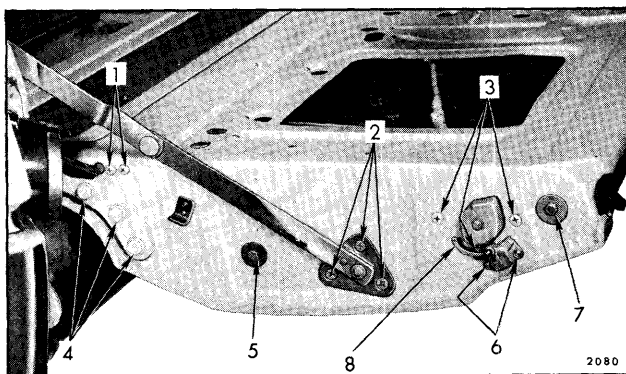

Fig. 9-5—Tail Gate Hardware - Left Side
3. While properly supporting tail gate, remove right and left support to gate attaching screws and fold supports against body (See Fig. 9-5 and 9-7).
4. With the aid of a helper, remove right and left tail gate hinge to gate attaching bolts and remove tail gate from body (See Figs. 9-5 and 9-7).
**NOTE:** On styles equipped with power operating tail gate windows, engage jamb switch and operate window to any position desired. Engaging the tail gate jamb switch makes it possible to operate the window (by key switch) with the gate in the open position. The jamb switch is located on the left side on "B" styles and on the right side on "A" styles. The switch is similar in design and may be engaged by finger pressure. (See Fig. 9-5).
2. Remove lower attaching bolt which is accessible through access hole on "A" styles, and is located on tail gate side outer panel on "B" styles (Fig. 9-5 for "B" styles).